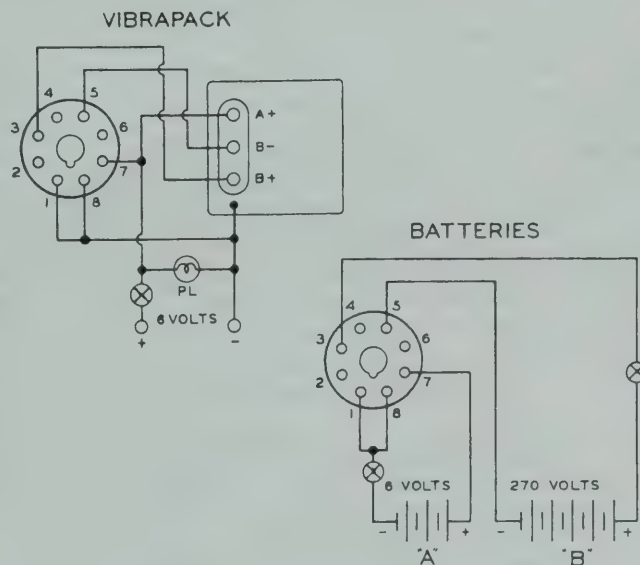

Figure 9. Octal plug wiring diagram
2. Wire an octal plug, as shown in Fig. 9, and plug it into socket SO-1. Use #19 (AWG) wire leads for the 270 volt "B" supply connections to pins #3 and #5, and #12 (AWG) wire leads for the 6 volt battery connections to pins #1, #7, and #8. **CAUTION:** Check the wiring carefully before connecting to the battery supply. The chart below lists the current voltage data.